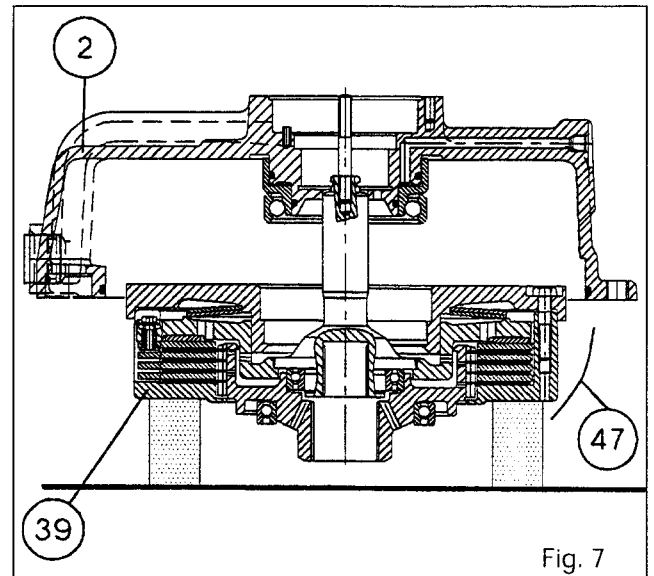
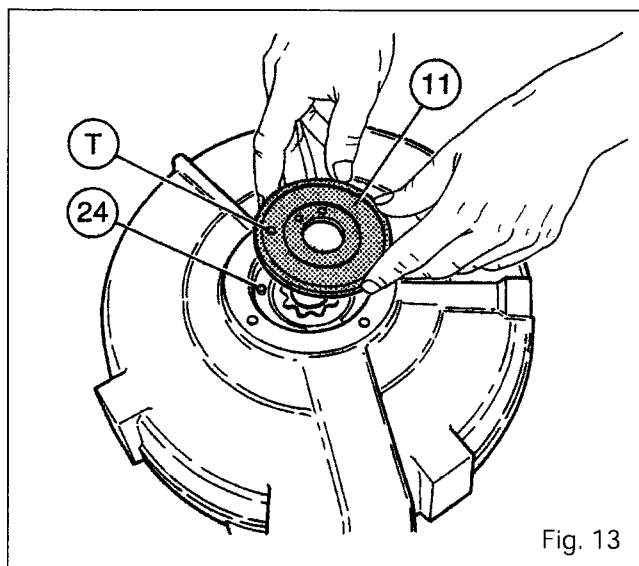

Fig. 7
Fig. 13
29. Remove the nut **(50)**. Place the housing and clutch assembly vertically, with the housing **(39)** resting on a support (Fig. 7).
34. Separate housing **(2)** from the clutch **(47)** (Fig. 7).
57. Check that the grooves in the housing (2) are not blocked.
58. Replace the stud (24), if it is out.
59. Lubricate and install the quading seals (48) (49) in the housing.
60. Press fit the release bearing (46).
61. Install the housing (2) on the clutch assembly (47) (Fig. 7).
62. Grease and install the pump (53).
63. Mount the pump cover (11) with the hole marked "T" directed towards the lock pin (24) while checking fuel holes alignment (Fig. 13).
64. Fit the roller bearing (55) on the input shaft (7).
65. Mount the circlip (43).
66. Place the greased O-ring (16) on the plate shaft (41).
67. Mount the input shaft in the housing (2). Place the O-ring and the protector (No. 3378052M1) (1). Mount the cover (9) with its oil seal (57). Torqu screws (54) to 10 -14 Nm with a torque wrench.
68. Tighten the nut (50) to 25 - 32 Nm. Apply Loctite 542.